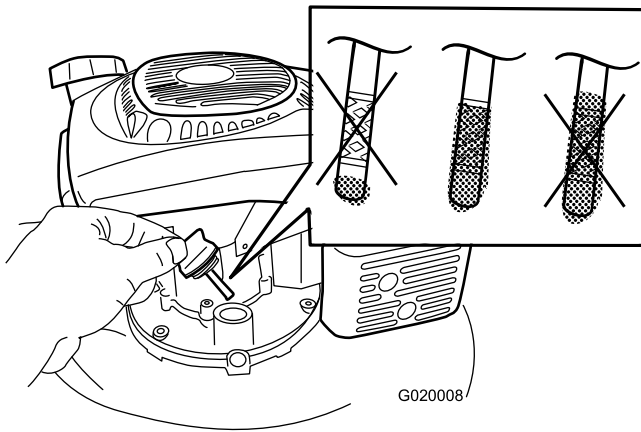

Figure 5
1. Remove the dipstick (Figure 5).
2. **Slowly** pour oil into the oil-fill hole until the oil level reaches the Full line on the dipstick (Figure 5). **Do not overfill.** (Max. fill: 0.59 l (20 oz.), type: 10W-30 or SAE 30 detergent oil with an API service classification of SJ or higher.)
**Note:** Each time you check the oil level, remove the dipstick and wipe it clean, insert it into the oil filler neck (but **do not** screw it in), then remove it again and check the level (Figure 5).